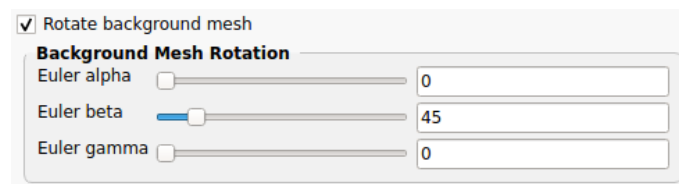

Figure 7.16: TMesh – background mesh rotation.
- The submenu "Background mesh rotation" appears, if the switch Rotate background mesh is enabled (Fig. 7.16). Then three items "Euler alpha/beta/gamma" are available. These set the rotation of the background mesh, which might be useful to achieve better alignment with the input geometry. Euler's angles intrinsic (z - y' - z'') rotation convention is used.